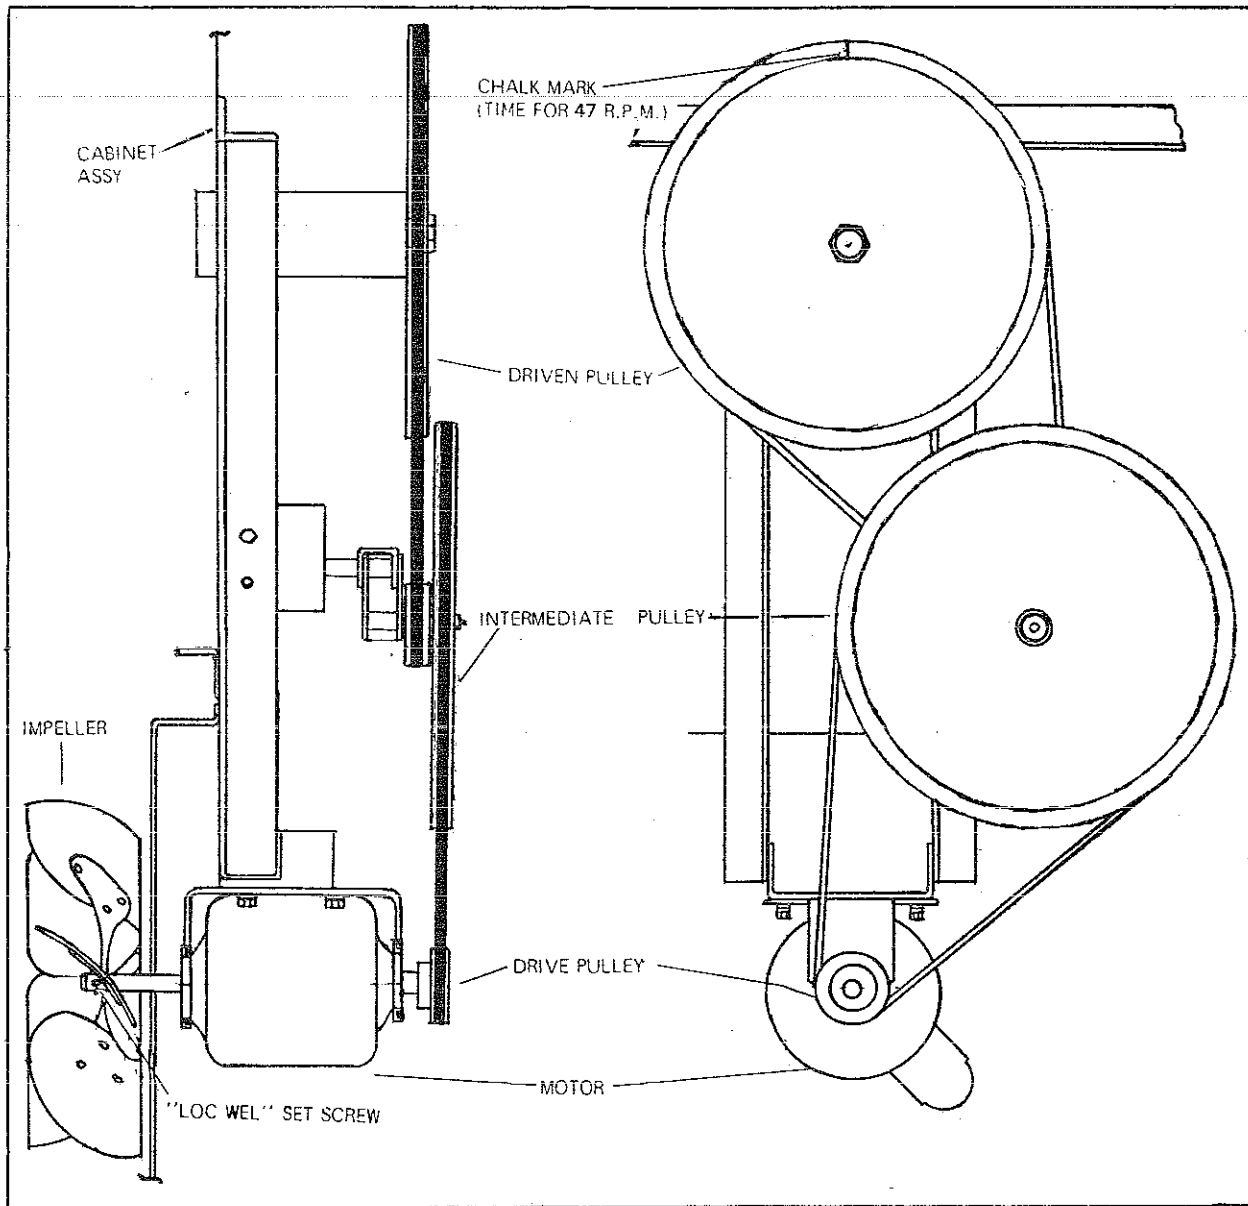

Figure 3-10. Pulley and Belt Assembly
1. Grasp and slide the drive belt off the intermediate pulley. (Refer figure 3-10).
1. Grasp and slide the driven belt off the driven pulley as the driven pulley is rotated. (Refer figure 3-10).
3-33 INTERMEDIATE PULLEY AND TENSION ARM REMOVAL (Refer figure 3-10).